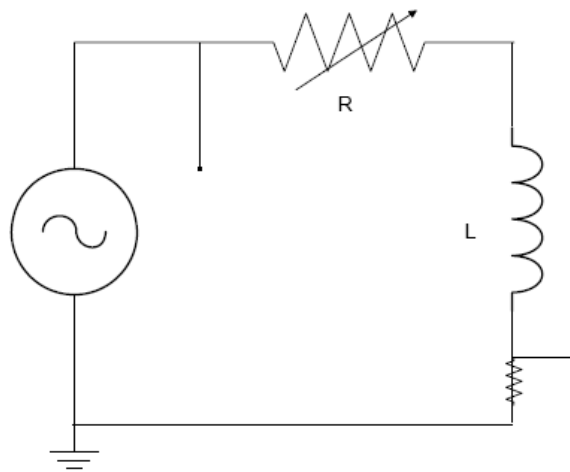

Fig. 2. The experimental RL circuit. L=10 mH.
4. (a) Construct the circuit of Figure 2. Set the source to the same values as in the previous circuit.